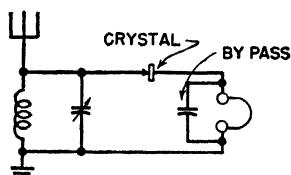

FIG. 2-42.—Simple receiver.
**Ques. 2.329.** Draw a diagram of a simple radio-receiver circuit using a crystal detector for rectification. (See Fig. 2-42.)
*Ans.* See Fig. 2-42.